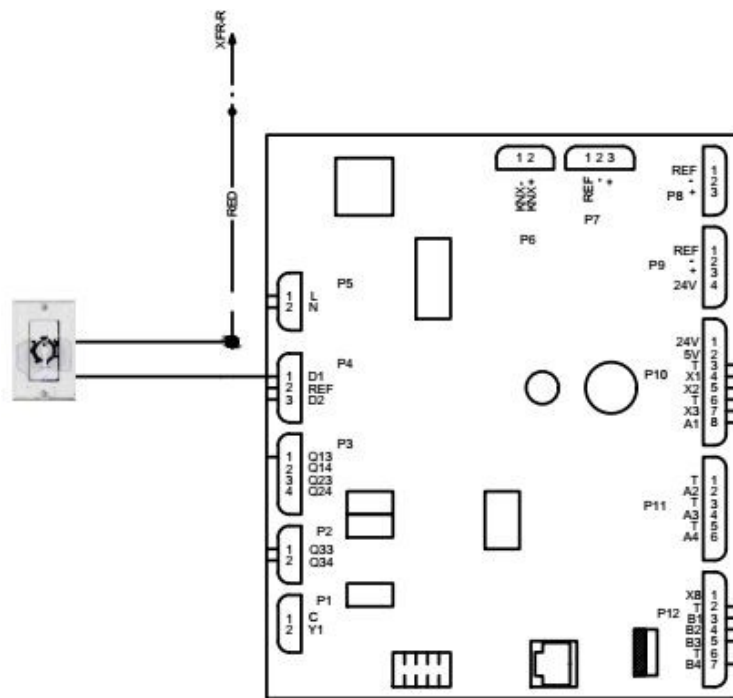

Figure 25 - Version 1 (Egg Timer/Analog Connection)
4. Connect the LOAD side of the timer switch to the D1 terminal wire [See **FIGURE 25 - Version 1 (Egg Timer/Analog Connection)**].